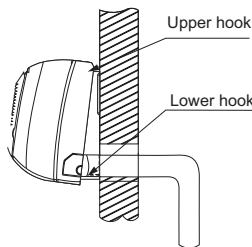

Fig. 14 – Indoor Unit Installation
- Push lower part of indoor unit up on wall, then move indoor unit from side to side, up and down to check if it is hooked securely (see Fig. 14).